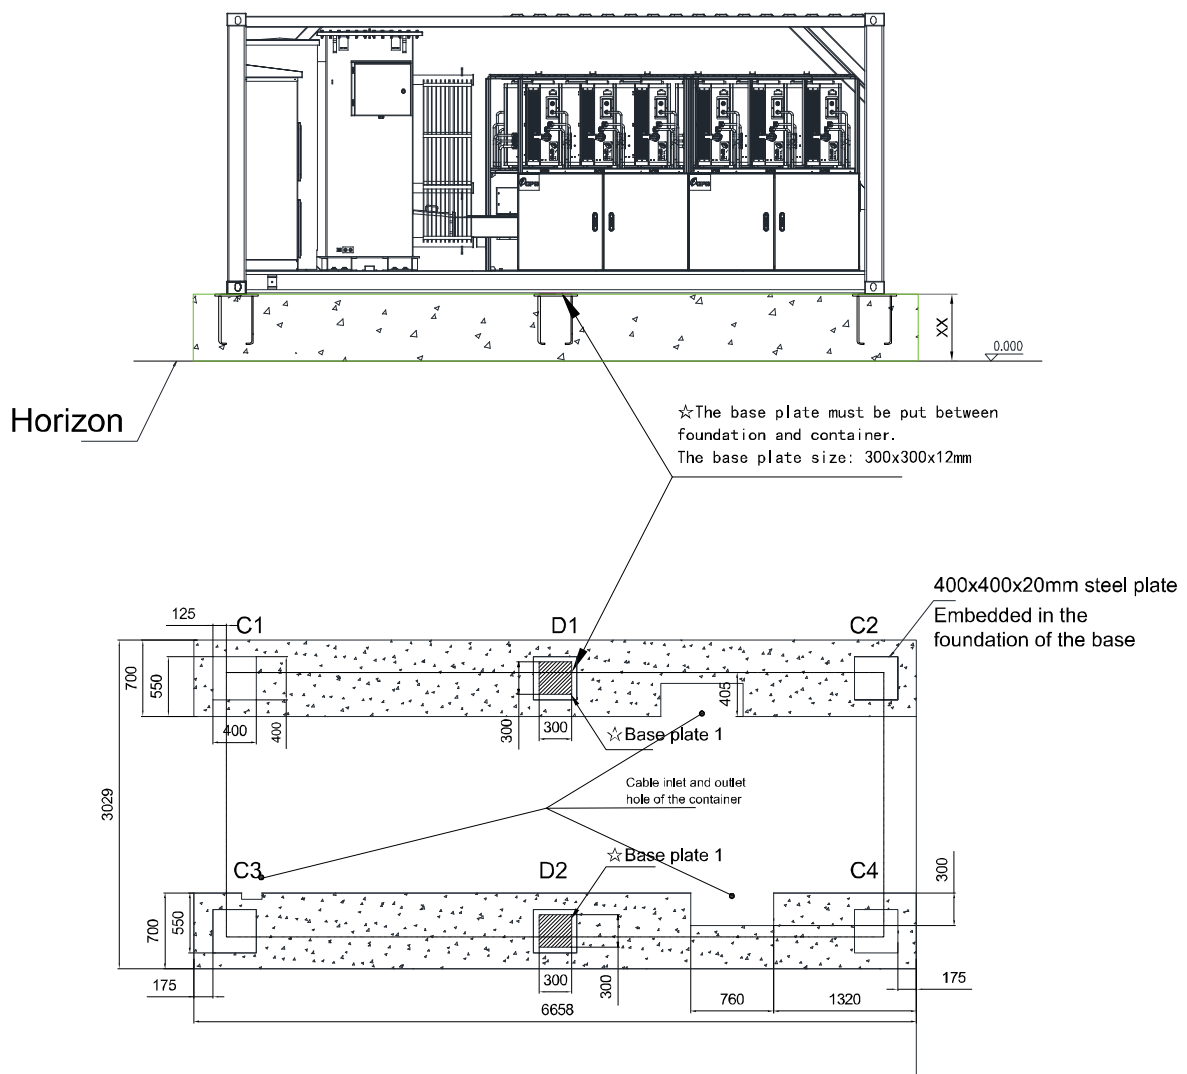

Fig. 3-2 Reference diagram of installation foundation
4. Low cement piers with sufficient supporting capacity shall be set up on the foundation to ensure the firm installation of the inverter room and meet the requirements of cable wiring, and incoming and outgoing positions for cables should be reserved at the same time. The recommended scheme is shown in Fig. 3-2: